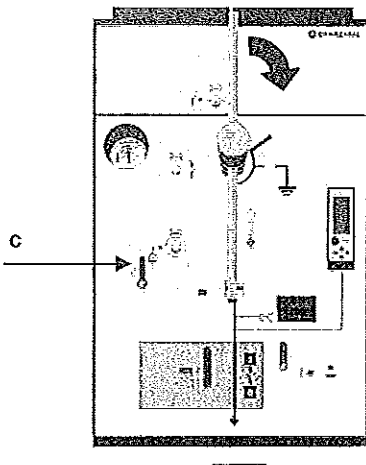

Figure 5.56: Lever Rotation Process
9. Turn the locking part (c) and slide the knob down to remove the interlock plate. Turn it again to lock it into position (refer to figure 5.56).